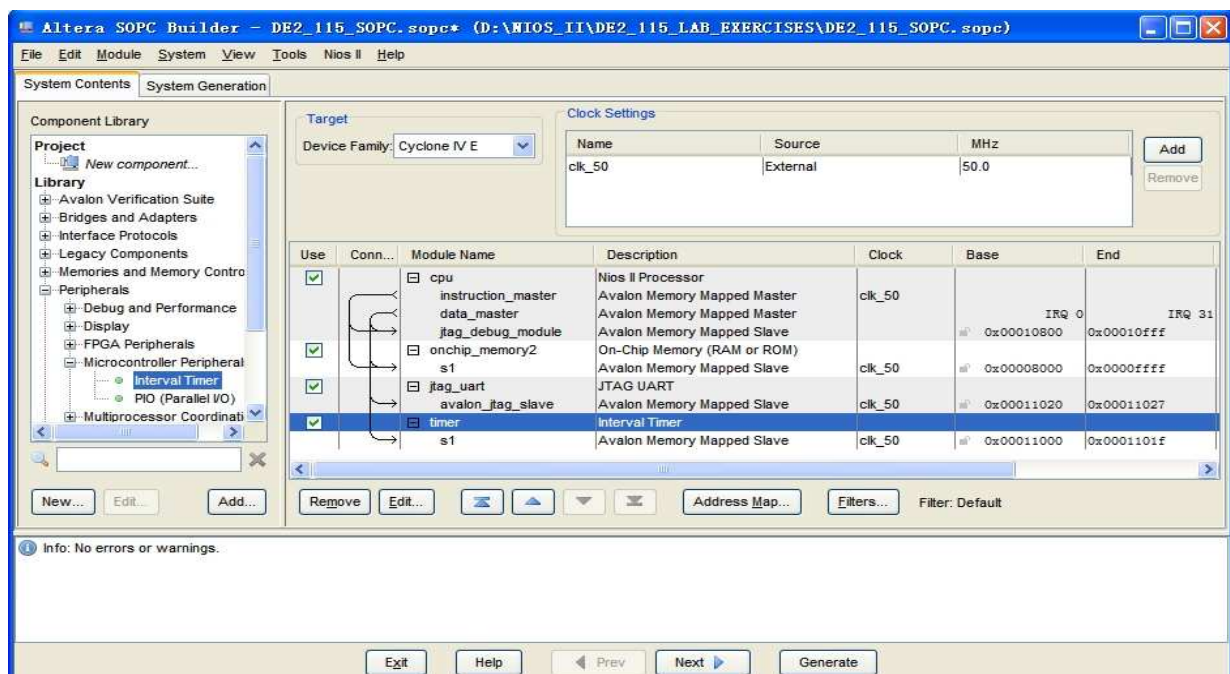

Figure 5. The Nios II system implemented by the SOPC Builder.
3. From the **System** menu, select **Auto-Assign Base Addresses**. You should now have the system shown in Figure 5.
Create an interrupt-service routine to read characters received by the JTAG UART from the host computer. Place the interrupt-service routine at the hex address 0x20, because this is the default location for the *exception handler* as chosen by the SOPC Builder. The exception return address in the *ea* register must be decremented by 4 for external interrupts. Figure 5 gives a skeleton of the interrupt-service routine written in the Nios II assembly language.
To enable both interrupts, from the Interval Timer and the JTAG UART for reading characters (from Part IV), the bits b1 and b0 of the control register *ctl3* must both be set to 1. As seen in Figure 5, the JTAG UART is on interrupt line 0 (or b0) and the Interval Timer is on interrupt line 1 (or b1). The control register *ctl4*, also referred to as *ipending*, can be used to determine which interrupt has occurred. If an interrupt is disabled using the control register *ctl3*, it will not cause the interrupt-service routine to execute, nor will it show as being triggered in the control register *ctl4*, even if the device is driving its interrupt-request line to